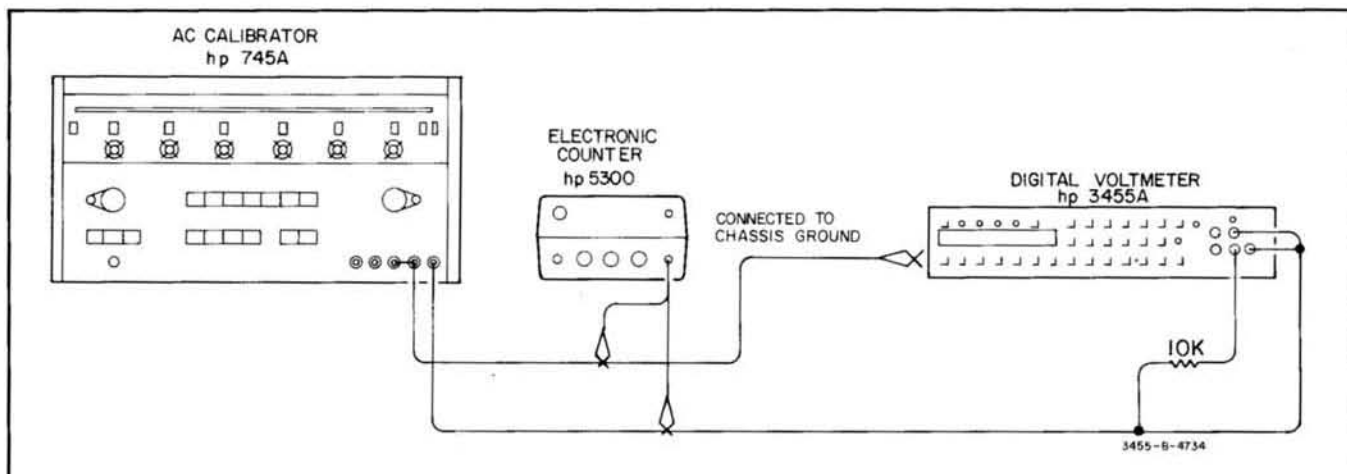

Figure 4-7. AC Common-Mode Rejection Test.
j. Disconnect the Frequency Counter and connect the AC Calibrator between the High INPUT terminal and chassis of the 3455A as shown in Figure 4-7.